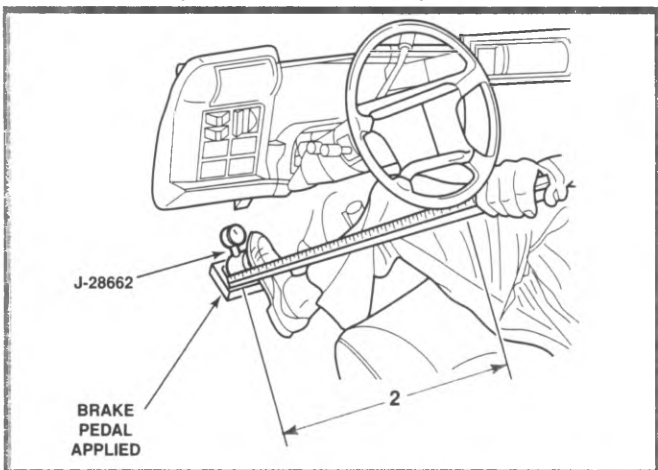

Figure 2-3, Checking Brake Pedal Travel (Measurement 2)
2. Take the second measurement after applying the brake pedal with about 445 N (100 lb.) of force using J 28662 (figure 2-3).